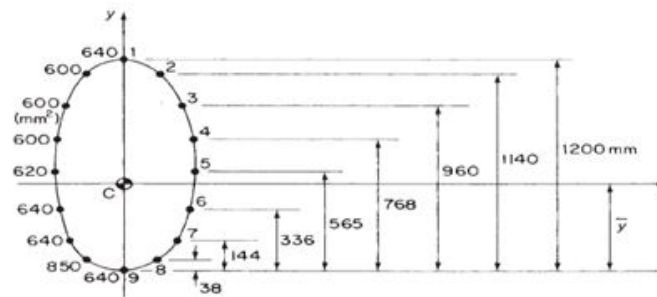

Figure 3
- (b) The fuselage section shown in Figure 3 is subjected to a bending moment of 100 kNm applied in the vertical plane of symmetry. If the section has been completely idealized into a combination of direct stress carrying booms and shear stress only carrying panels, determine the direct stress in each boom. [BL: Understand | CO: 8 | Marks: 3]